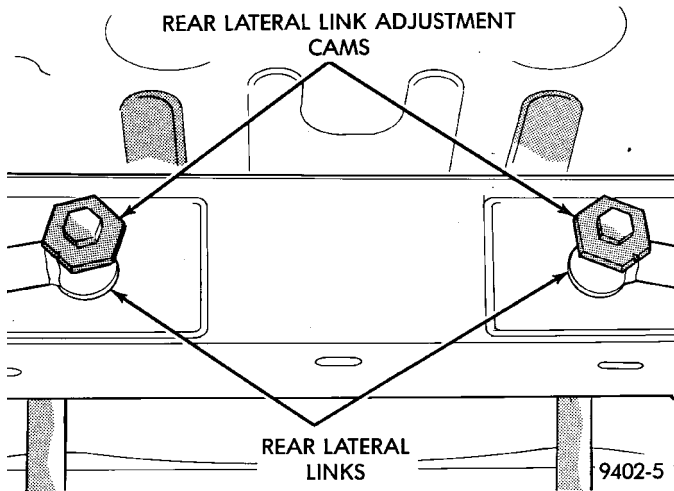

Fig. 5 Rear Wheel Toe Adjustment Cams
(5) Rotate lateral link adjustment cams (Fig. 5) until the preferred rear Toe specification is obtained. See Alignment Specifications in this group of the service manual for preferred specification.